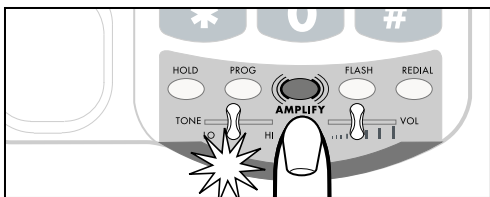

Figure 9 - AMPLIFY Button and Indicator
1. Press the **AMPLIFY** button as shown in Figure 9 to turn the incoming voice amplifier on or off. When **AMPLIFY** is on, the **AMPLIFY** indicator comes on.
1. When you hear a voice on the line, press the **AMPLIFY** button shown in Figure 9.